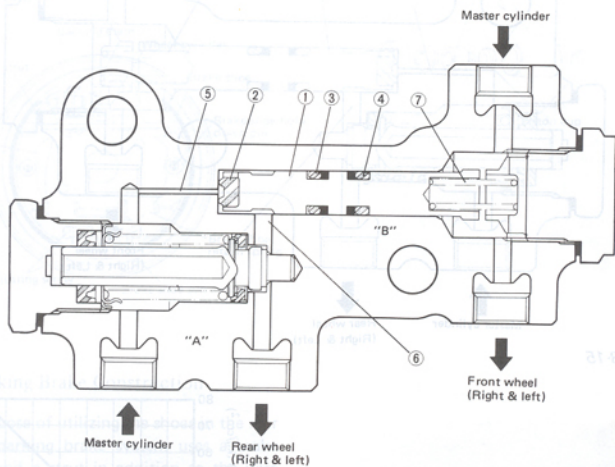

Fig. 18-14
In Fig. 18-14, "A" indicates the proportioning valve and "B", the bypass valve. Seal ② is installed at the end of piston ① and serves to close the oil passage between ⑤ and ⑥. "O" rings, ③ and ④, seal off the pressure systems of the rear wheel cylinder and front wheel cylinders. On the side (right) opposite the seal, spring ⑦ is installed.